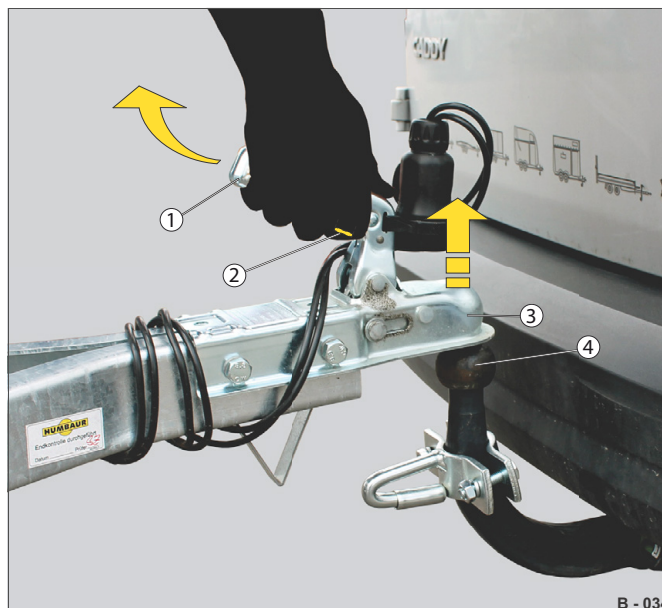

Fig. 12 Example: uncouple unbraked trailer
- Unlock the handle (Fig. 12 /1) in barrier.
- Press the safety catch (Fig. 12 /2) on the handle all the way in.
- Lift the spherical cup (Fig. 12 /3) off the ball head (Fig. 12 /4) of the towing vehicle.